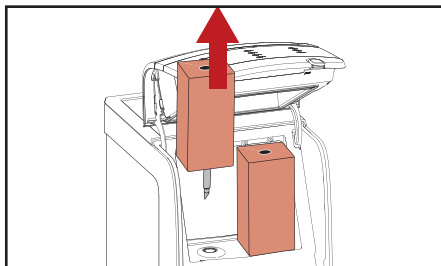

Fig. 5.8 - Remove packs
3. Remove the product packs (fig. 5.8).